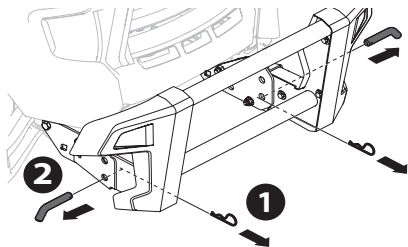

Figure 56
1. Remove two cotter pins, and then pull the pins. See Figure 56.